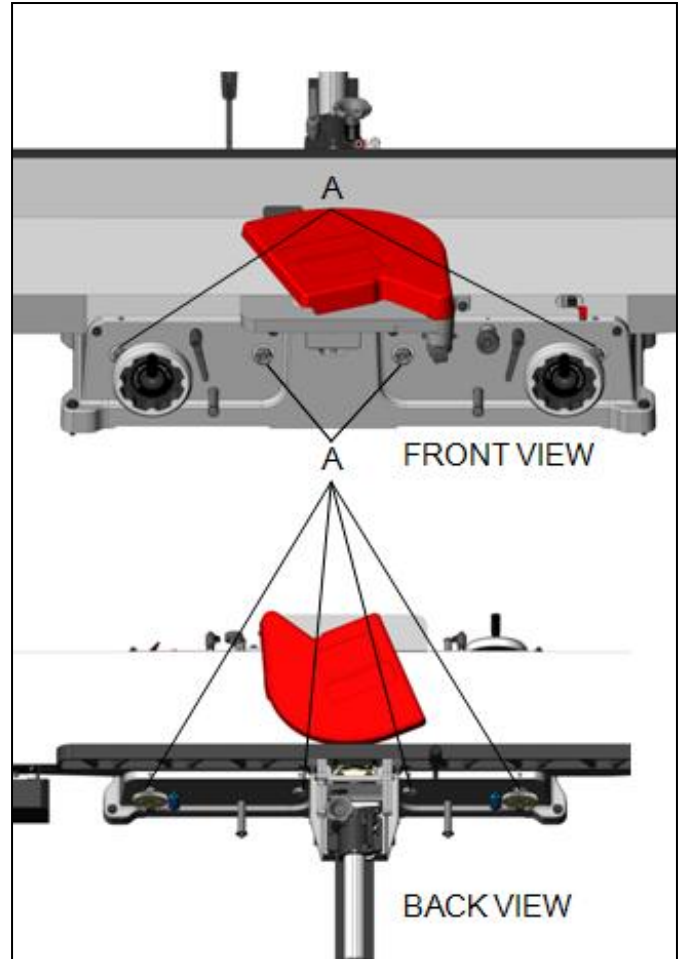

Fig. 16
1. Lightly loosen the gib adjusting screws (A) on the front base Fig.16 by 32mm(not including) . By loosening the lock nuts first the set screws should be loose enough to move the table.